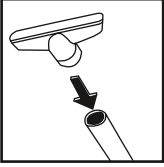

Fig. 11
10. Choose the pipes or accessories to use and insert in the nose. (Fig. 11)